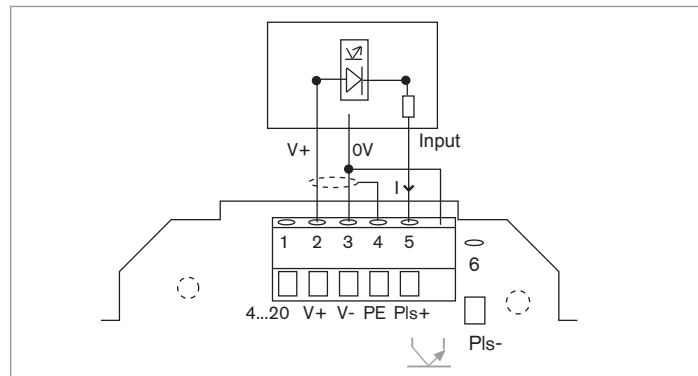

Figure 17: Connection of the frequency output in NPN mode to a programmable controller
- to a programmable controller in PNP mode or in NPN mode (see Figure 17)